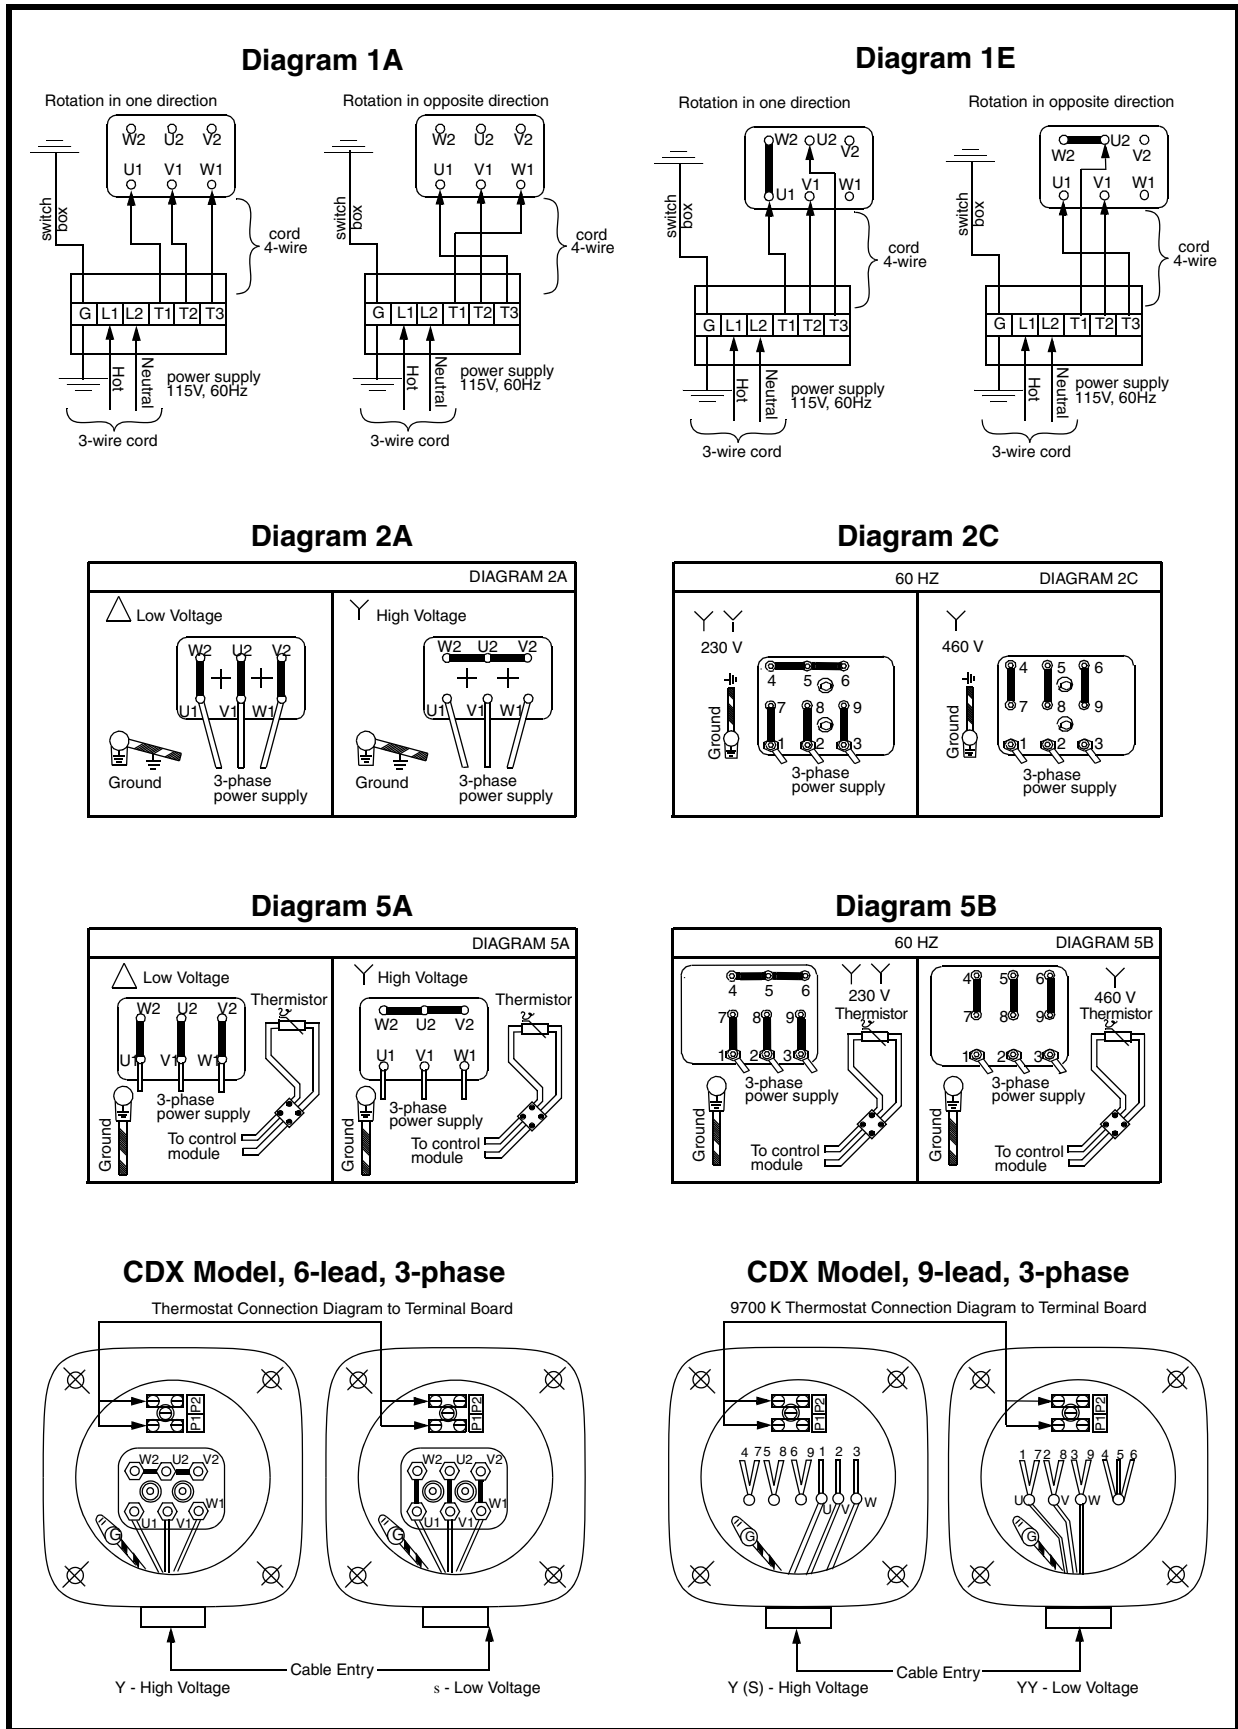

Figure 5. Wiring Diagrams
3. Wire vibrator according to appropriate wiring diagram inside terminal box, or see Figure 5. **Use closed loop wire connectors only.**
3. Observe direction of motor rotation. If motor is not rotating in correct direction, lock out/tag out energy source and reverse rotation. To reverse rotation of three-phase vibrator, reverse any two of the three power supply wires. To reverse rotation of single-phase vibrator, see Figure 5, diagram 1A or 1E.